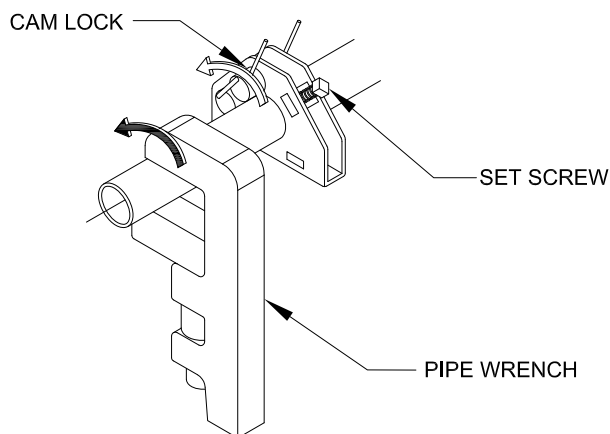

Figure 19.
14.3 To remove tension, grasp the end of the axle pipe with a pipe wrench and apply a slight amount of pressure downward and hold. Disengage the cam lock by pushing back on the spring pin. Release tension by moving the pipe wrench backwards (see Figure 19). Release the spring pin and the cams will engage to hold tension on the door. Repeat as many times as necessary.